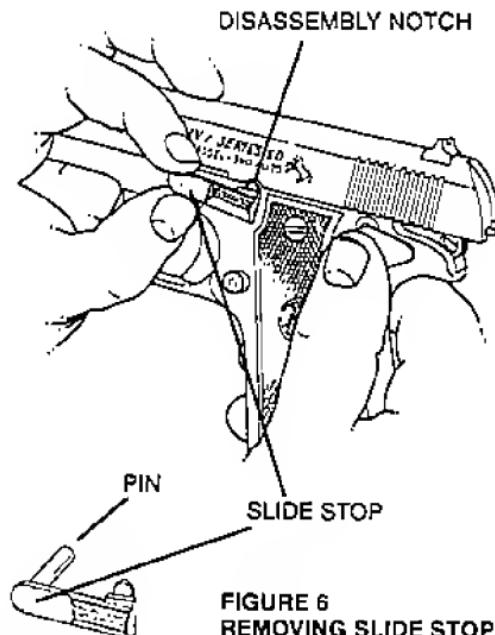

FIGURE 6
3. (A & B) Pull slide to rear until lug on slide stop is opposite disassembly notch. (See Figure 6) Push rounded end of pin of slide stop (on right of receiver) inward and through receiver to disengage slide stop from slide.
4. (A & B) Lift out slide stop. (See Figure 6)